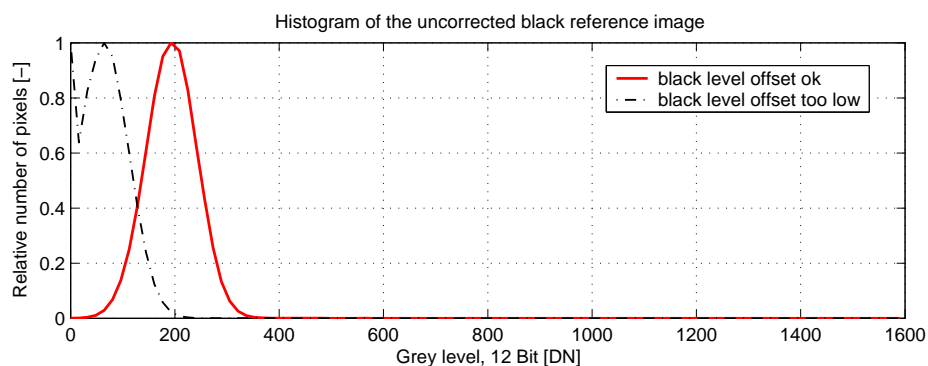

Figure 4.34: Histogram of a proper black reference image for offset correction
- It may be necessary to adjust the black level offset of the camera. In the histogram of the black reference image, ideally there are no grey levels at value 0 DN after adjustment of the black level offset. All pixels that are saturated black (0 DN) will not be properly corrected (see Fig. 4.34). The peak in the histogram should be well below the hot pixel threshold of 1008 DN @ 12 bit.